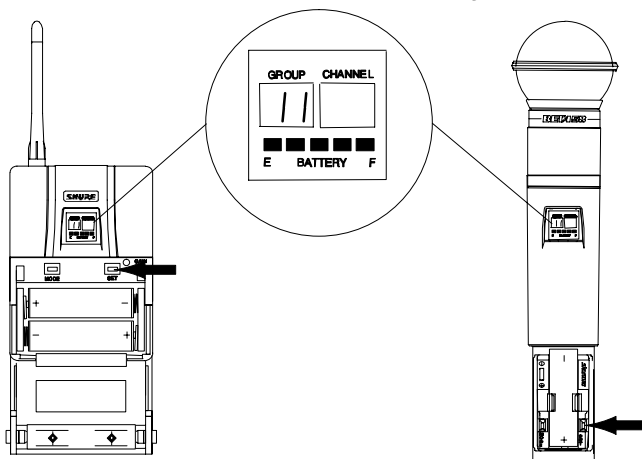

FIGURE 39
4. Press the SET button to increment the Group setting, as shown in Figure 39.